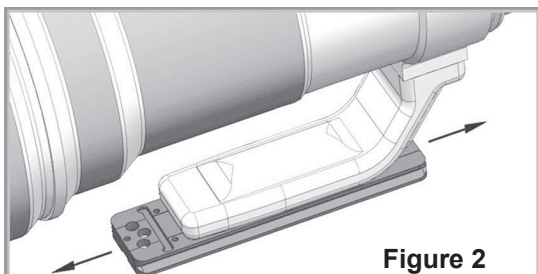
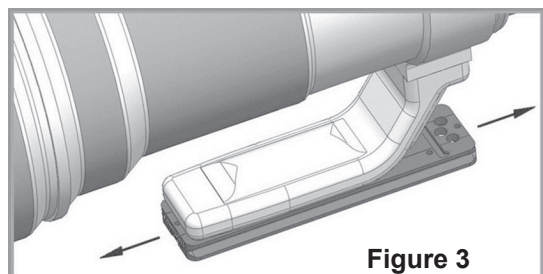

Figure 2
Figure 3
6. Position the lens plate on the lens foot. The plate can be positioned on the foot in either direction as needed, as in Fig. 2 & 3 below.
Positioning the plate on your lens: The plate position can be adjusted on the lens foot to suit your needs. It can be positioned either facing forward (Fig. 2) or facing backward (Fig. 3). The plate's elongated center slot allows you to adjust the back and forth position of the plate on the lens foot (illustrated with arrows in Fig. 2 & 3) while the screws are still engaged. Loosen the screws just enough to free up the plate (see step 5 above), then position the plate so that you: 1. can balance the lens in all scenarios (e.g. with teleconverters, flash brackets, different camera bodies, etc.) and 2. have enough plate contained within the clamp for a secure mount.